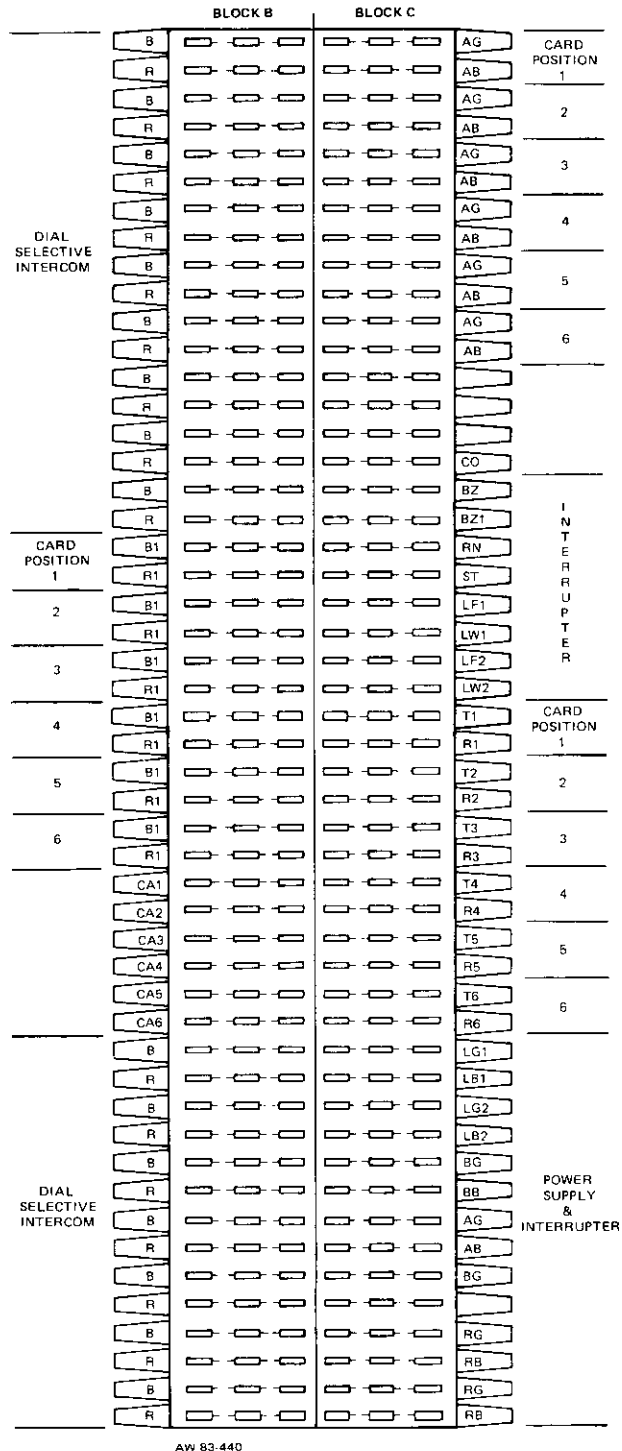

Figure 3: KSU Connecting Blocks B and C
2.10 The right-hand terminal block on the back-board assembly is a 50-pair block. The left side is designated block B, and the right side is designated block C. Block B is used to terminate the station ringer leads. Block C is used to terminate the CO/PBX line Tip and Ring leads. In systems arranged for dial-selective intercom, terminal blocks A and B are used for assigning dial codes. Block C is used for connecting the power supply and interrupter outputs to the dial intercom KTU. Layout of this block is shown in Figure 3.